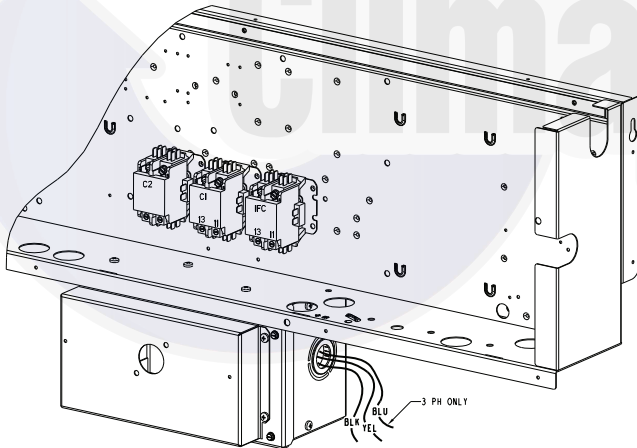

Fig. 29 — Location of Non-Fused Disconnect Enclosure
The factory-installed option non-fused disconnect (NFD) switch is located in a weatherproof enclosure located under the main control box (see Fig. 29). The manual switch handle is accessible through an opening in the access panel. Discard the factory test leads (see Fig. 24).
1. Remove the Control Box access panel. The NFD enclosure is located below the Control Box (see Fig. 29).